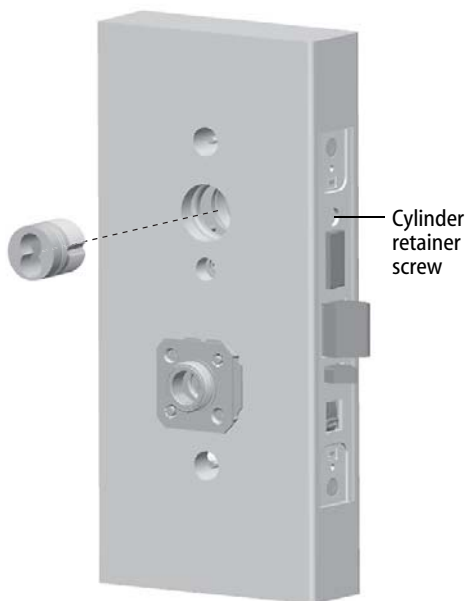

Figure 13 Installing the concealed cylinder
- 1 Use a cylinder wrench to thread the cylinder into the mortise case so that the groove around the cylinder is even with the door surface as shown in Figure 13.